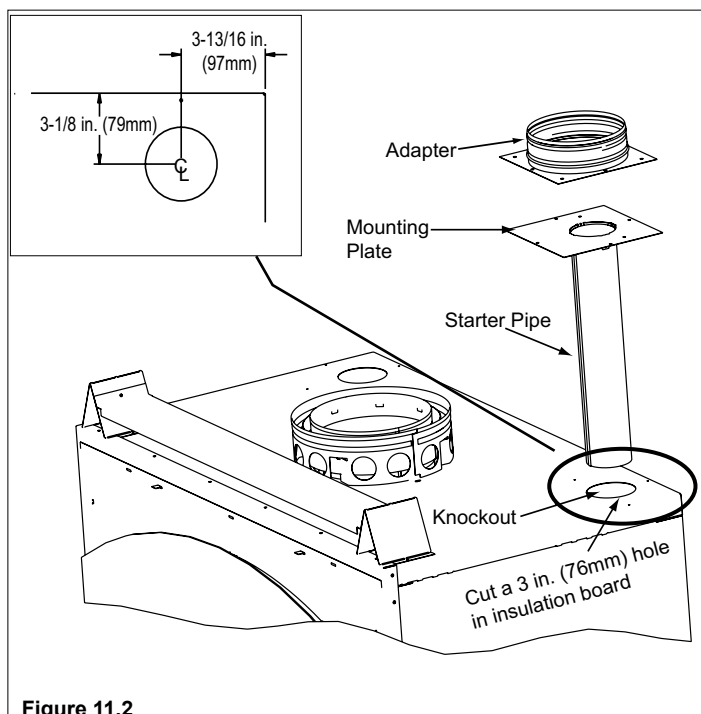

Figure 11.2
1. Remove the knockout or cover plate from the top of the fireplace and discard it. See Figure 11.2.
2. Cut a 3 in. (76mm) hole in the insulation board as per the dimensions shown in Figure 11.2